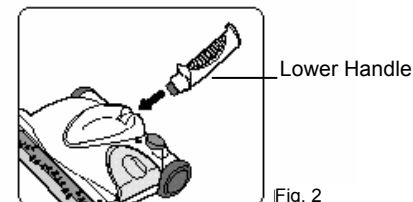

Fig. 2
2. Insert the lower handle - small end - into the sweeper power head. Push until firmly in place. (Fig. 2)